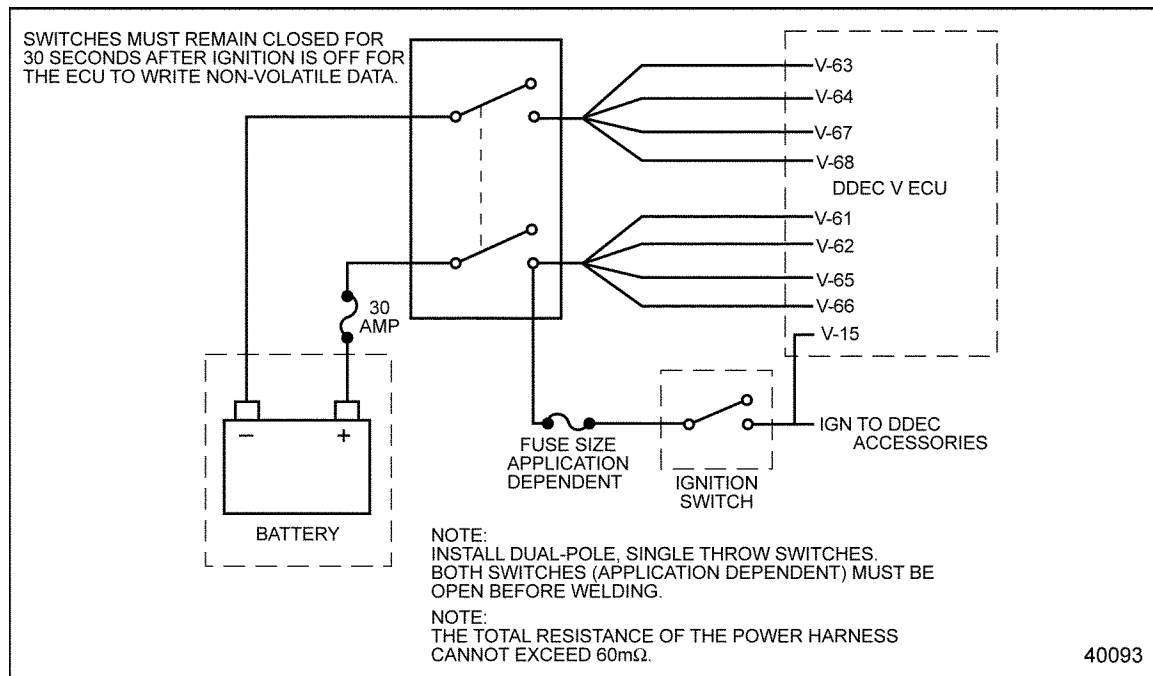
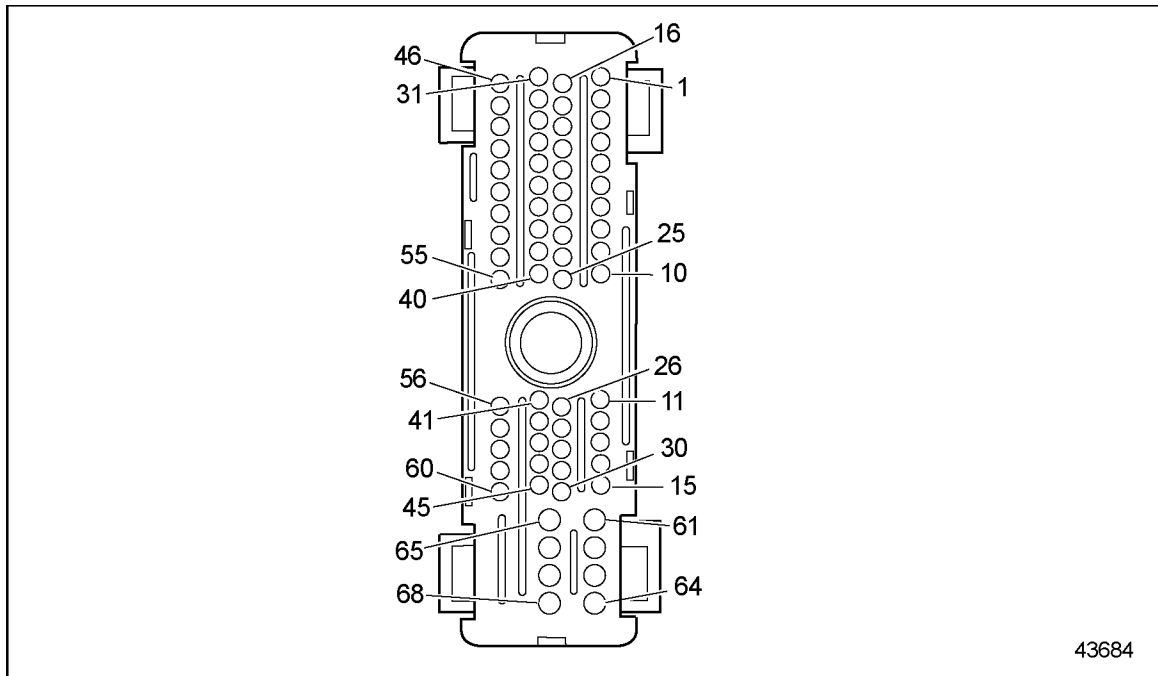

Figure 48-1 Power Wiring
Figure 48-2 Vehicle Interface Harness Connector
2. Measure voltage on battery + terminal (red lead) to battery - terminal (black lead). See Figure 48-1.
3. Measure voltage from socket V-61, V-62, V-65, and V-66 (red lead) of the VIH connector and a good battery ground (black lead). Do not use lines (V-63, V-64, or V-68) as a ground reference. See Figure 48-2 for the VIH connector. See Figure 48-1 for the power wiring.
2. Measure voltage at socket A of one fuseholder (red lead) to a good ground (black lead). For the VIH connector, see Figure 48-2.
1. Disconnect the vehicle harness connectors at the ECM/ECU. See Figure 48-2.